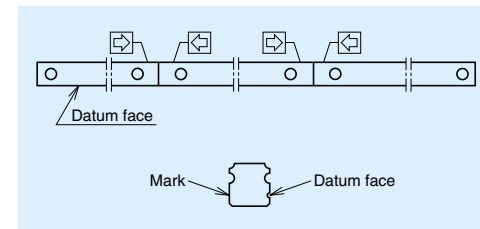

Fig. III-7-3
- The rails with butting specification are marked with arrows on the opposite side of the mounting datum. When mounting the rails, follow the procedure shown in Fig. III-7-3.